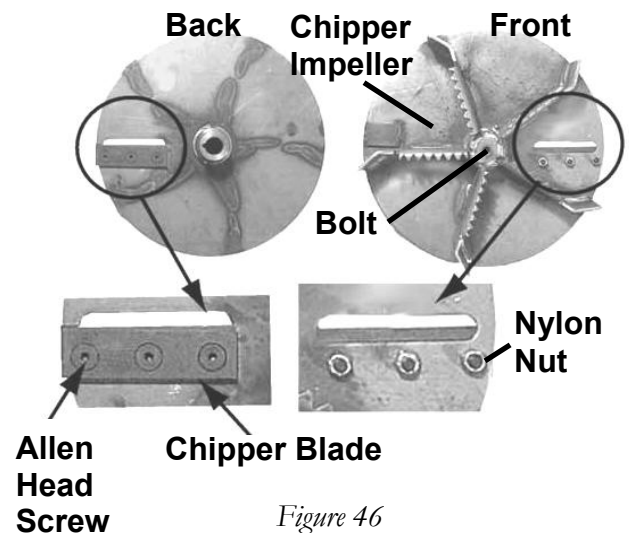

Figure 46
4. Using the 9/16" wrench or socket, remove the Chipper Impeller retaining bolt from the engine shaft and slide the impeller off of the shaft (Figure 46). Be sure to save the key in the slotted shaft.
5. The Chipper Blade is attached to the impeller with three (3) Allen head screws and three (3) nylon lock nuts (Figure 46). Using the 3/16" Allen wrench and 1/2" wrench, remove the old Chipper Blade by removing the three (3) screws and nuts.